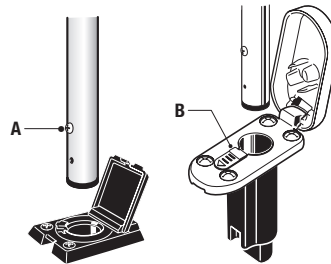

Figure 3
1. Align pole screw with the slot (or locking spring) in the existing base. Insert pole into base (Figure 3).